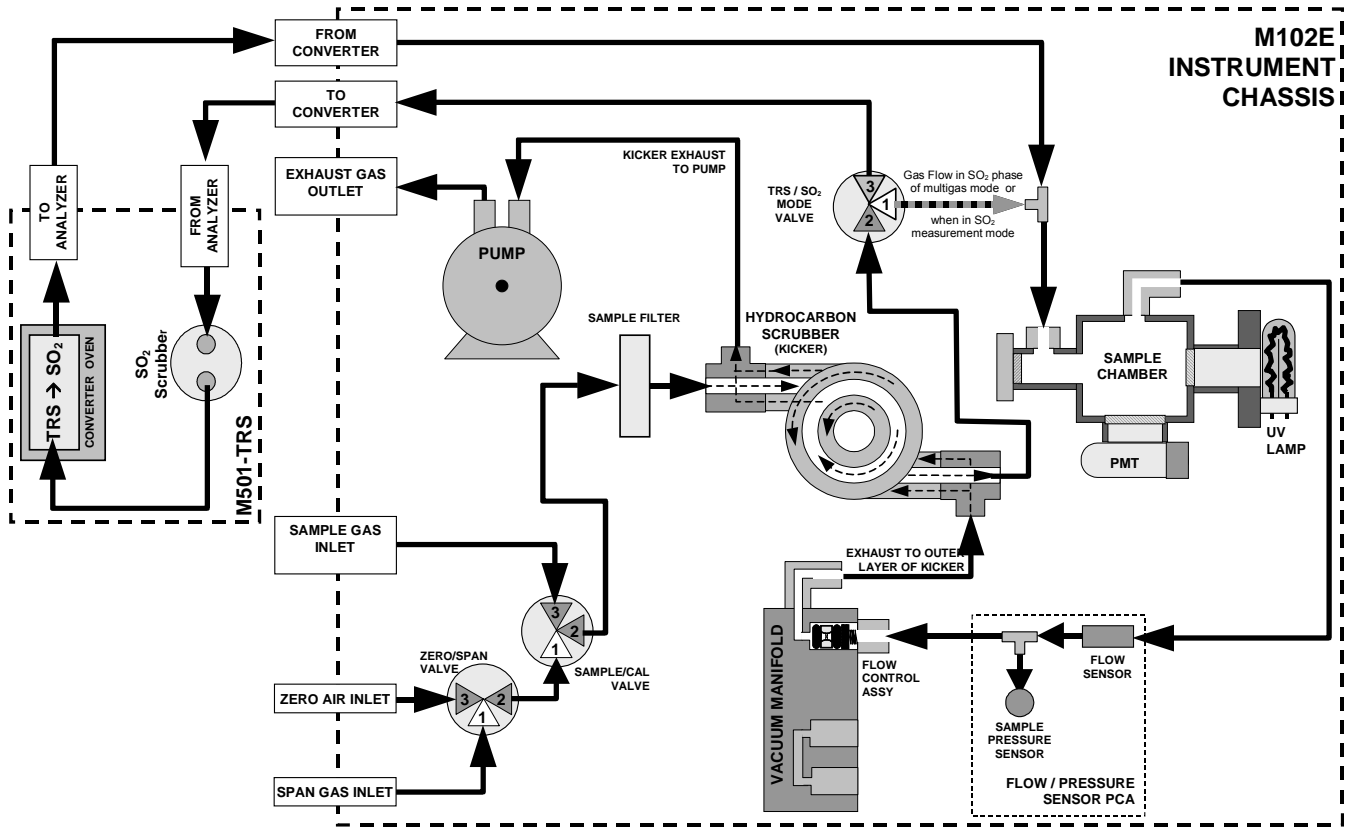

Figure 4-1: Internal Pneumatic Diagram of the M102E With Z/S Option Installed.
- Figure 4-1 for an illustration of the M102E internal gas flow with the zero/span valves (option 50), and;